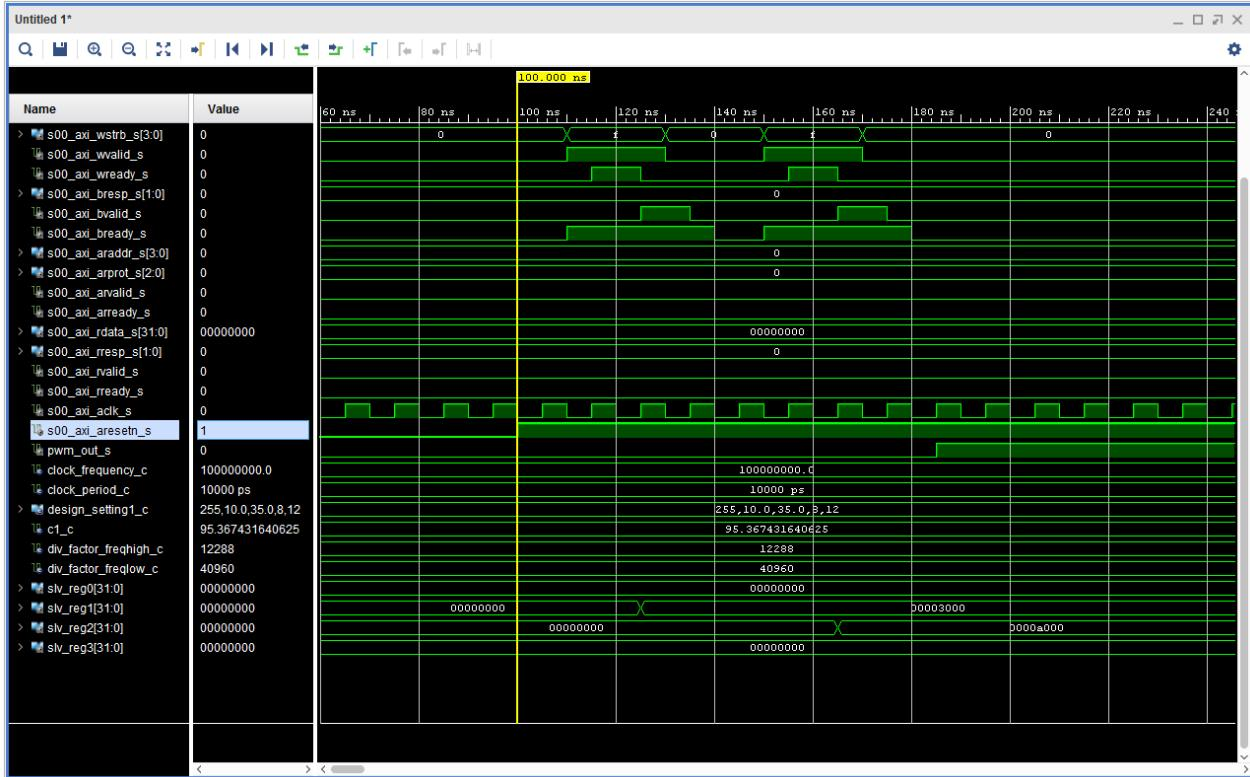

Figure 12.94: Simulation results - writing to div_factor_freqhigh and div_factor_freqlow registers
8. Go to the beginning of the simulation result, zoom out few times and find the moment where **s00_axi_aresetn_s** signal is changing from **0** to **1**. Your simulation results should look like as it is shown on the Figure 12.94. From the simulation results we can see that our system works as we predicted.